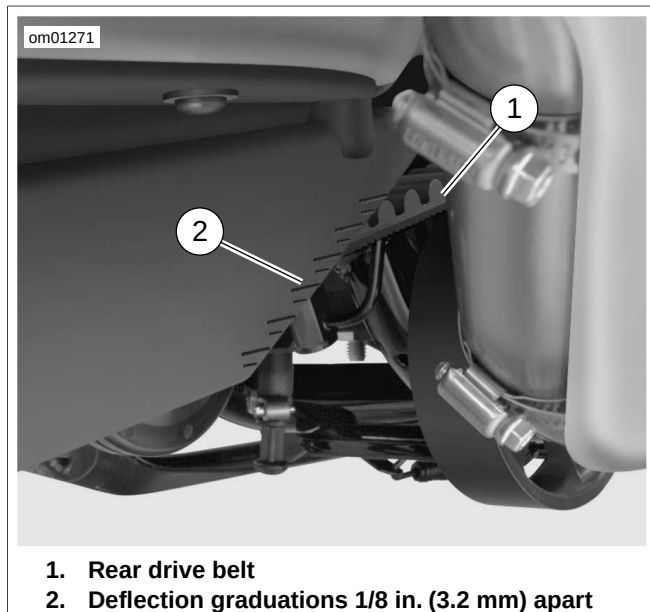

Figure 1-54. Belt Deflection: XR 1200 Model
- a. See Figure 1-54. On XR 1200 model, note the belt position according to the graduations on the front of the debris deflector.